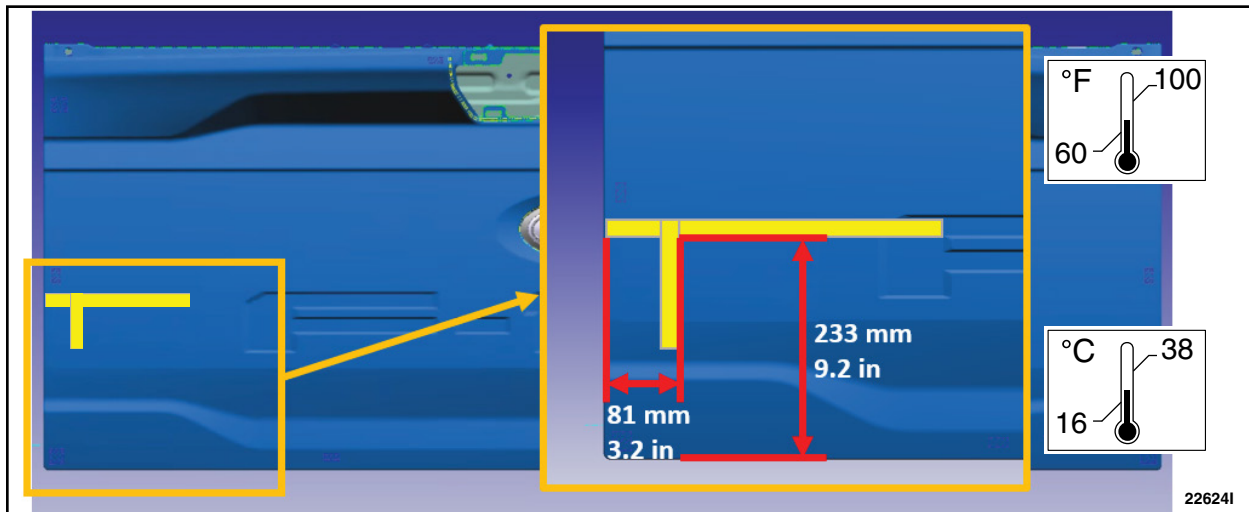

FIGURE 12
41. Measure and apply locating masking tape to the tailgate outer panel. See Figure 12.